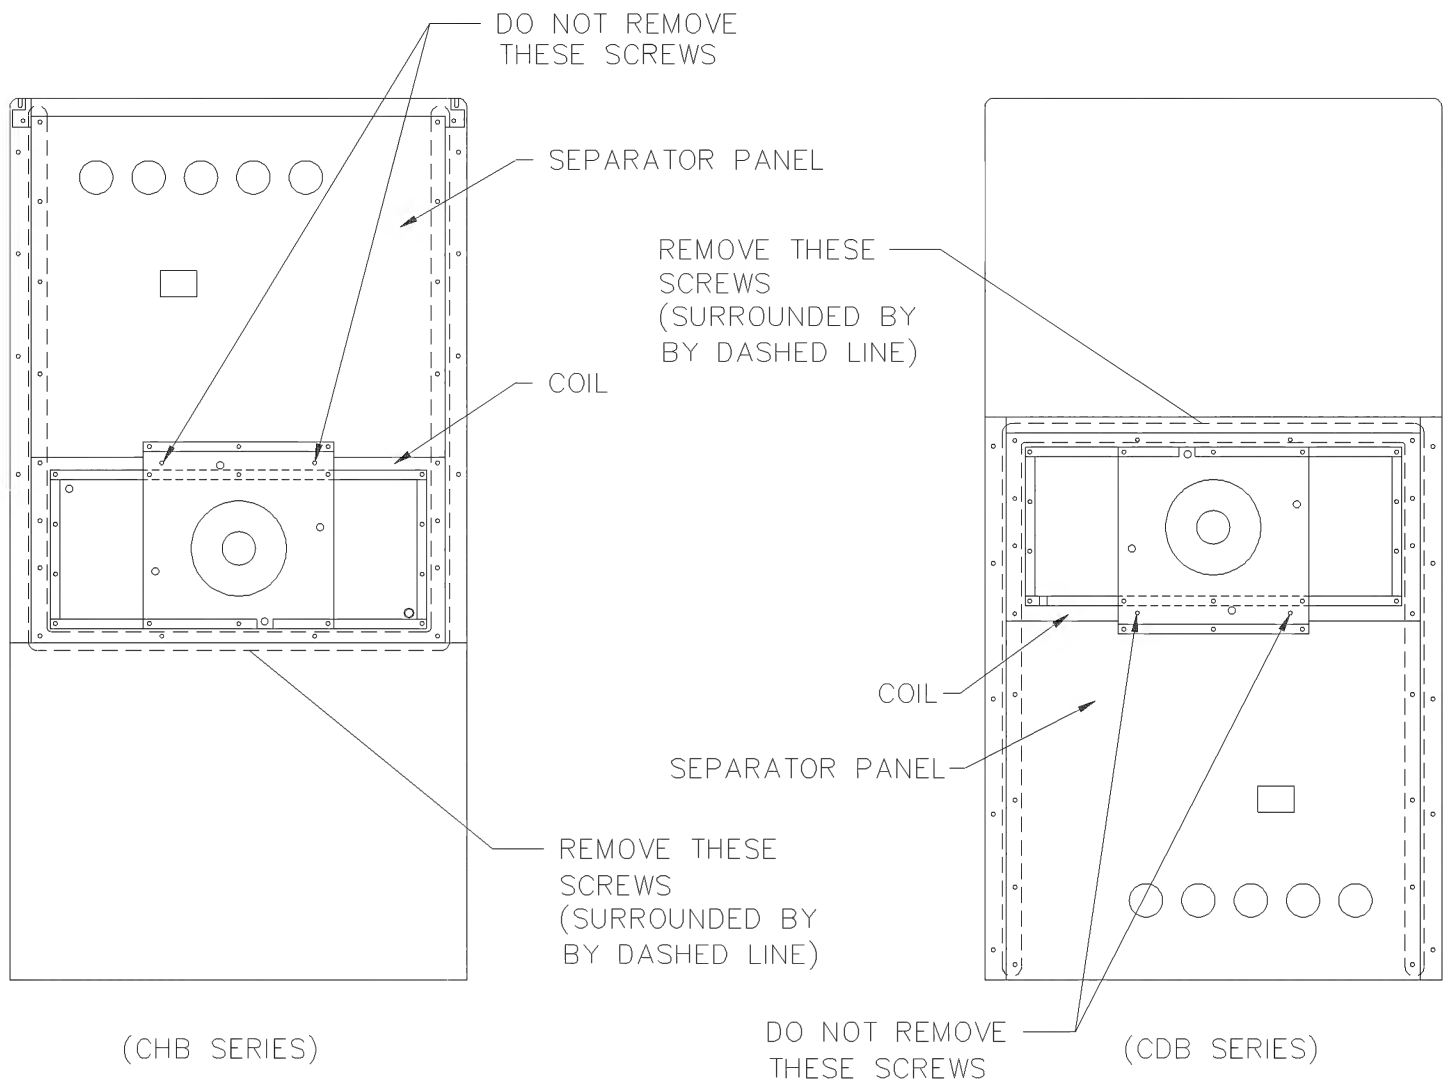

Figure 27
b. After removing all the components and the heat exchanger retainer screw (on CDB's) the inner row of screws holding the heat exchanger can now be removed (Notice the primary and secondary heat exchangers are connected and the two center screws between the separator plate and coil must not be removed (see Figure 27)).